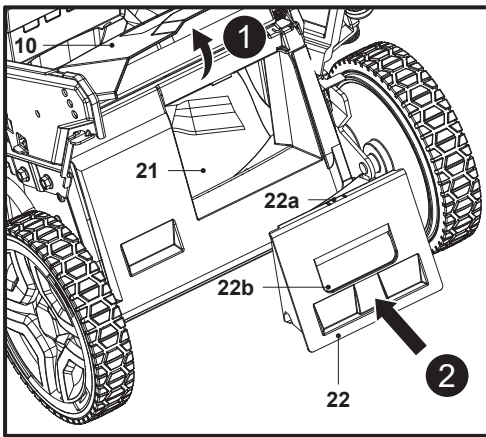

Fig. 14
1. Open the deflector guard (10), hold the recess handle (22b) in position and insert the mulching insert (22) into the rear discharge chute (21) (Fig. 14). Ensure the locking latch (22a) snap into the rear discharge chute (21).